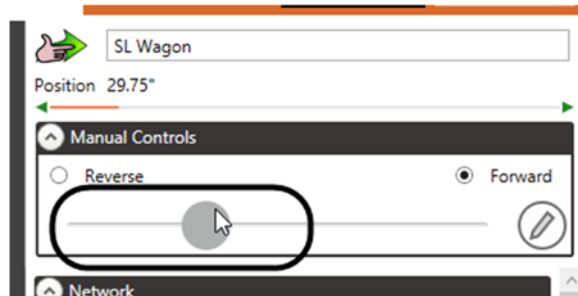

Figure 118
5. Click and drag the slider slowly to the right, which will release the brake and ramp up the motor speed (Figure 118).